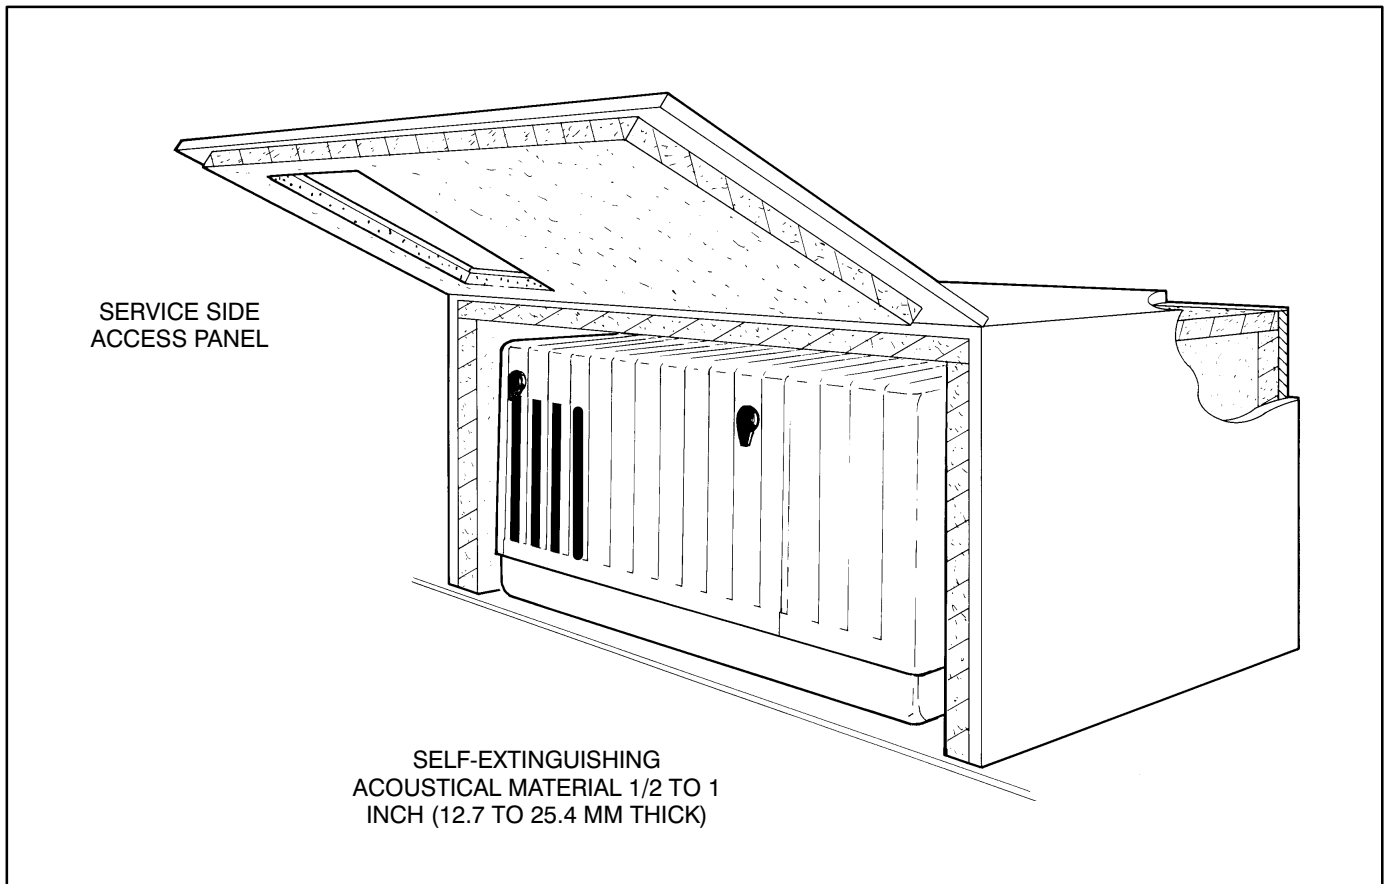

FIGURE 5-2. NOISE REDUCTION COMPARTMENT DESIGN
- Cover the back, top and sides of the compartment (not the compartment base) with fiberglass or other self-extinguishing, sound-absorbent material. Sound insulation and adhesive must be rated at 200°F (90°C) minimum. See Figure 5-2 to design the genset compartment for optimum noise reduction.